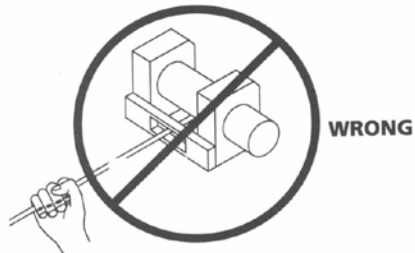

Figure 11
**⚠ Danger** Never touch the winch rope or hook while they are in tension or under load. Even at rest, the winch may have the winch rope in tension. Never guide a winch rope under tension onto the drum with your hands (see Fig.11).